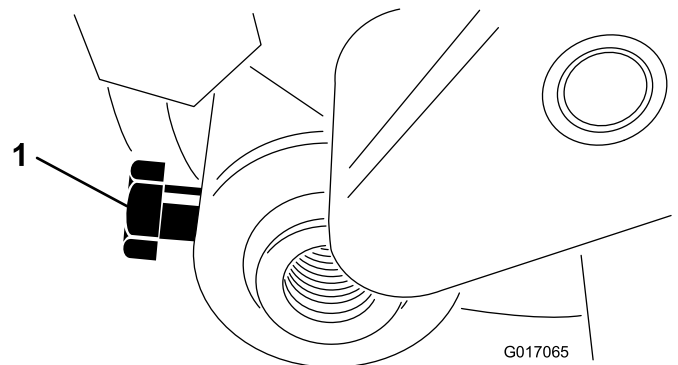

Figure 12
24. Insert the roller shaft into the left adjuster arm and loosely secure with a bolt (Figure 12).
32. Center the roller between the adjuster arms and tighten the mounting bolts (Figure 12).